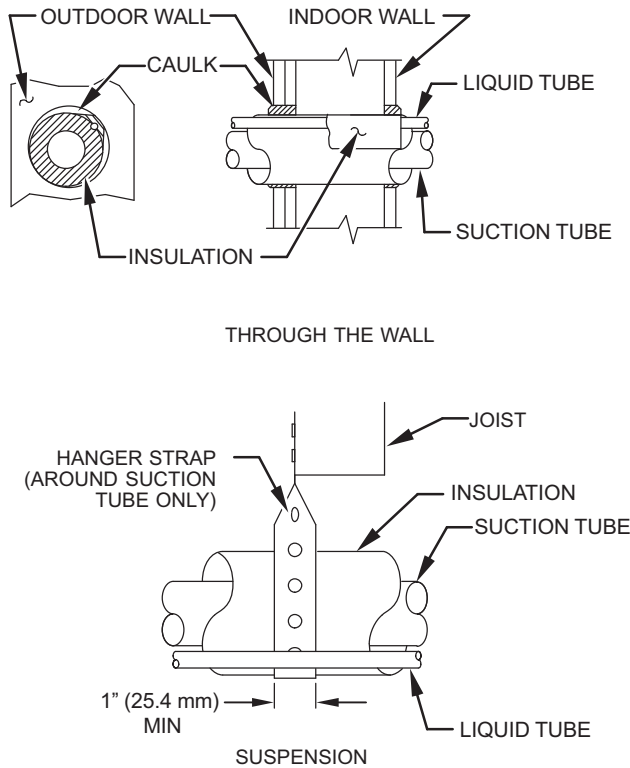

Fig. 1 – Connecting Tubing Installation
6. When passing refrigerant tubes through the wall, seal opening with RTV or other pliable silicon-based caulk (see Fig. 1).
8. Do not suspend refrigerant tubing from joists and studs with a rigid wire or strap which comes in direct contact with tubing (see Fig. 1).
10. When necessary, use hanger straps which are 1 in. wide and conform to shape of tubing insulation. (See Fig. 1.)